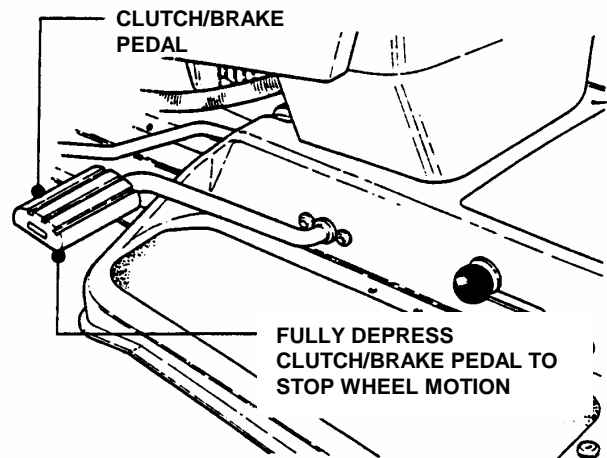

FIGURE 2.10
1. Fully depress clutch/brake pedal to stop wheel drive. See Figure 2.10.